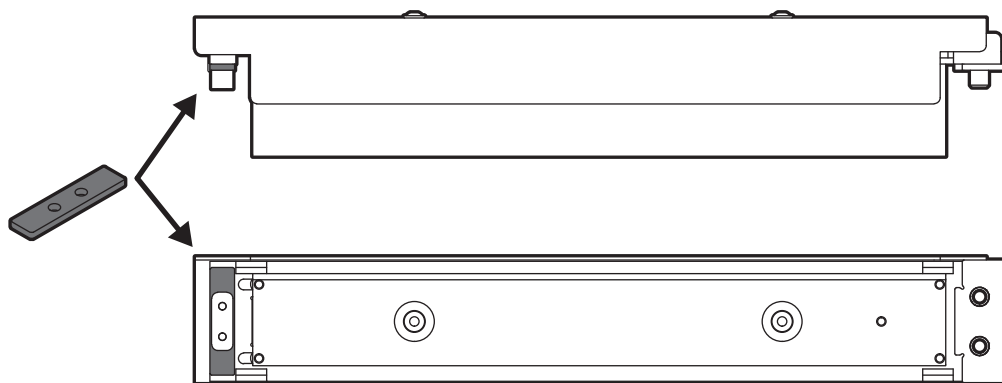

Fig. 7 Place of replacing the metal washers for the levelling slider (front and bottom view of Recoater blade).
- a. Levelling slider washer - Using the 2.5 mm allen key unscrew the Levelling slider (left side of the Recoater blade). Replace the metal washer (1mm) with the additional one from the set (2mm) and screw everything together (fig. 7).